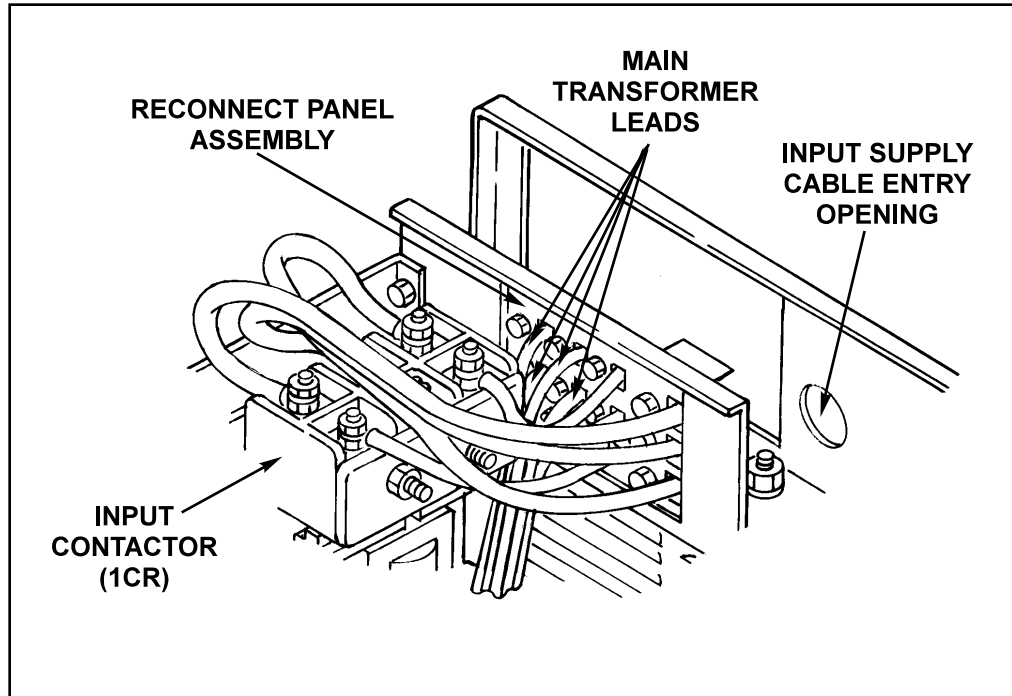

FIGURE F.3 - Input Contactor, Reconnect Panel, and Primary Leads to Main Transformer Locations
2. Inspect the Input Contactor, Reconnect Panel, and primary leads to the Main Transformer for loose or faulty connections. See Figure F.3.